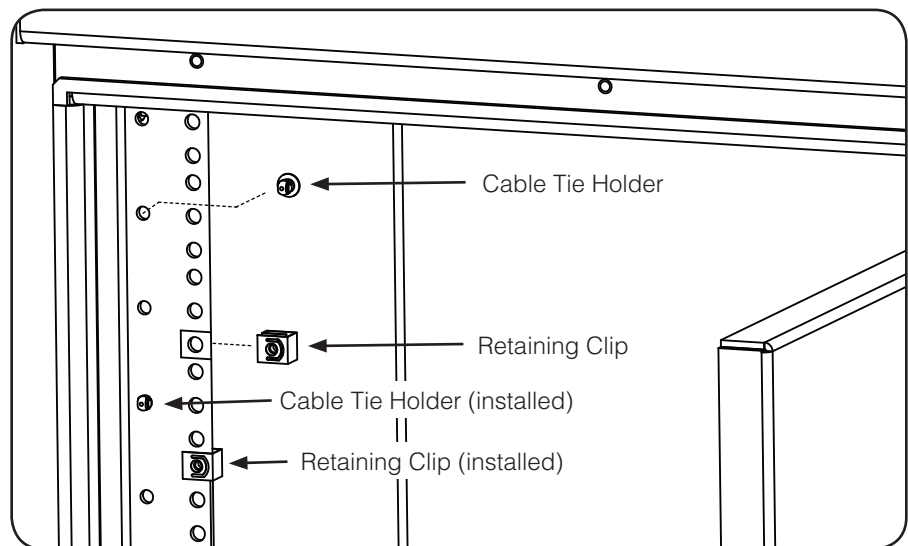

Figure 6.11 - Retaining Clips and Cable Tie Locations
1. Install four retaining clips at the desired mounting position on the mounting rails. An example is shown in Figure 6.11 below.